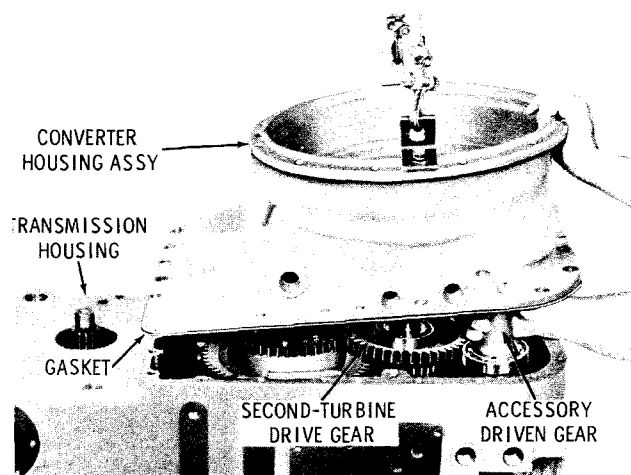

Fig. 7-34. Installing torque converter housing assembly
(1) If roller bearing 45 (B, foldout 3) is used with the accessory driven gear, install the outer race, lip toward the rear, into the main housing bore. It may be necessary to temporarily install the charging pump to maintain bearing race alignment. Install the gasket onto the converter housing splitline. Use oil-soluble grease to retain the gasket during installation of the housing (fig. 7-34). Attach a sling to the housing front flange and, while lowering the converter housing (as assembled in para 6-8) onto the transmission